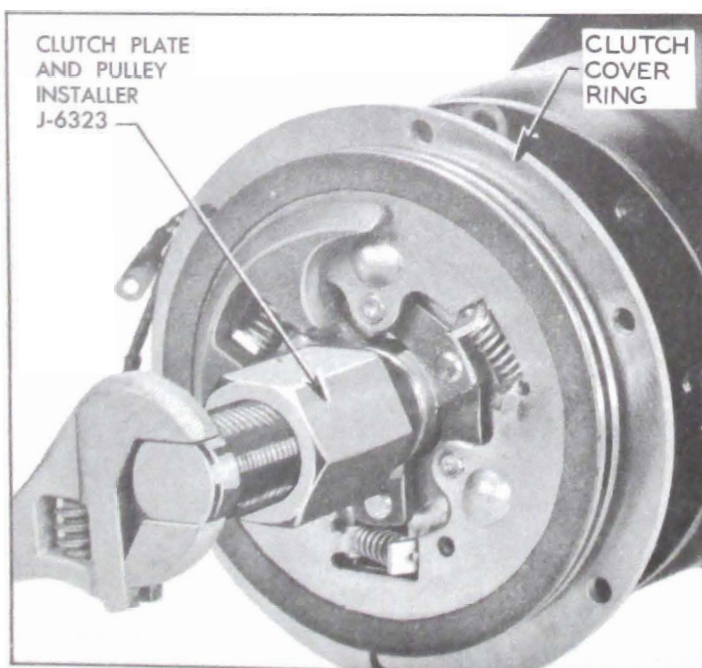

Figure 11-32—Installing Clutch Plates
14. The clutch plate assembly is now ready to be pressed on the shaft, using Tool J-6323. See figure 11-32.